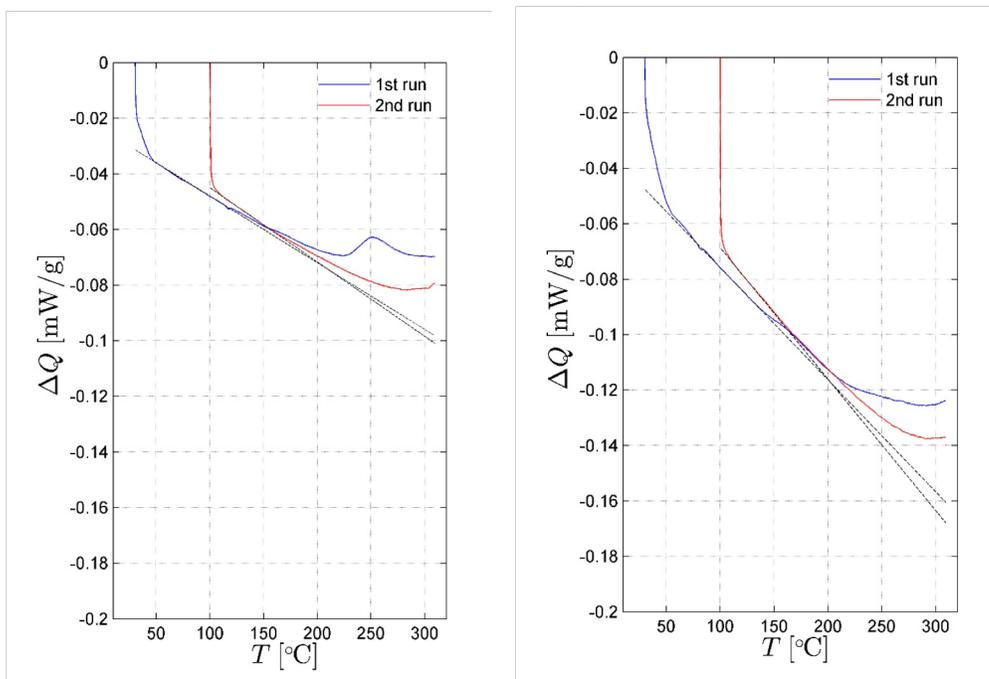

Figure 3- DSC Curves for two epoxy resin mold compounds: the Sumitomo compound previously discussed (left), and a Shin-Etsu compound (right).
In Figure 3, we show a graph from the Sumitomo epoxy resin mold compound on the left, and a different epoxy resin mold compound on the right - a Shin-Etsu epoxy resin mold compound formulation. We use the same procedure for each formulation. Notice that the two samples show clear differences. There is very little thermal activity in the Shin-Etsu epoxy resin mold compound in the first heating region.
Since the STI region increases $R_{DS(on)}$, is there another method for increasing the drift region without this negative side-effect? One solution is to use a Contact Field Plate (CFP). The CFP can be biased to help push the carriers deeper into the silicon. The CFP is typically made with tungsten, since tungsten can make contact with the silicon without any adverse effects. The CFP can also help create a Reduced Surface Field, sometimes known as RESURF. For further details on RESURF, we recommend our Online Training Course on Process Integration. The cross-section simulation images in Figure 3 help to show the movement of carriers deeper in the silicon. The tungsten CFP is visible in the three images on the right as the rectangular region just to the right of the gate (shows up as blue in the top- and middle-right images, and as gray in the bottom-right image).
Figure 3- On-state simulations at $V_{DS} \approx 12\text{V}$ and $V_{GS} = 2\text{V}$ for the default FA device (left) and default CFP device (right). Top: Magnitude of current density ($|J|$) and current potential lines (black lines). Middle: Magnitude of electric field ($|E|$) and potential lines (black lines). Bottom: Impact ionization (II) and current potential lines (black lines). The CFP depletes the underlying silicon which bends the current route more into the bulk. Moreover, this results in two more moderate field peaks instead of the strong field peak at the gate edge, thereby reducing the impact ionization and hence increasing BV_{ON} . (J. Toonen, Master's Thesis, , p.53, 2019, Eindhoven University of Technology)